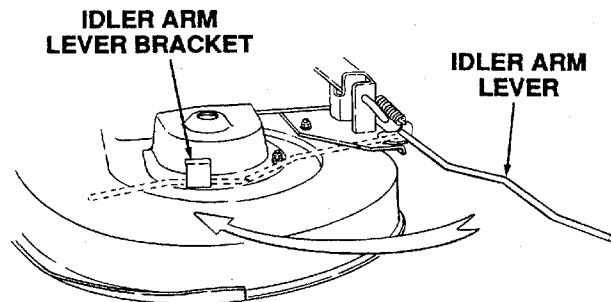

Figure 57
14. While holding the belt in position, rotate and engage the deck idler arm lever into its stop bracket to provide tension on the PTO belt (Refer to Figure 57).